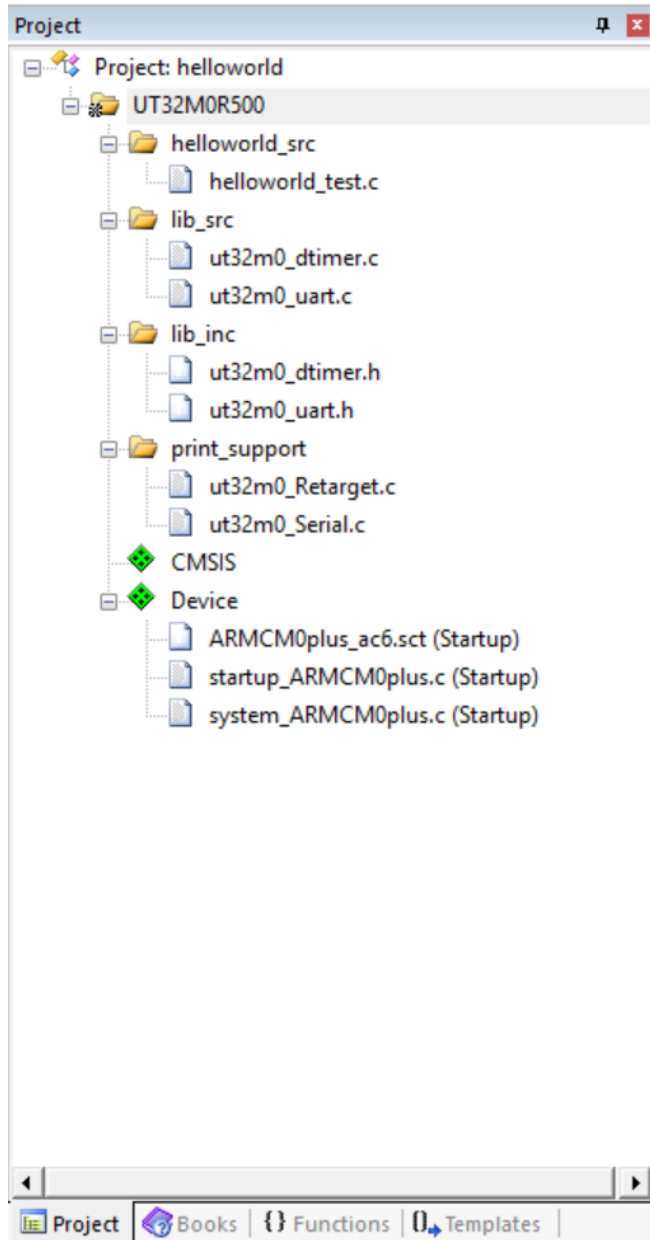

Figure 4: Add source and include files
10. Right-click on **Target1** and select **Add Group...** to create groups for source and include files from Frontgrade's Standard Peripheral Library, <your working dir>\StdPeriphLib\src and <your working dir>\StdPeriphLib\inc. Add sources and include files to their respective directories, see Figure 4.